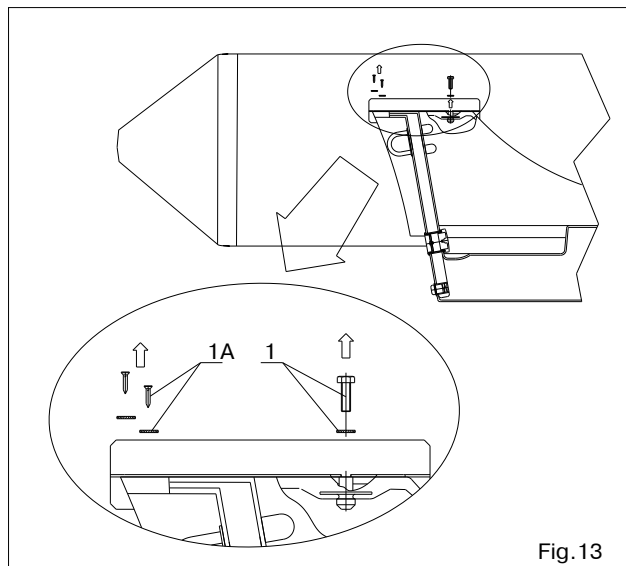

Fig.13
1. Turn off two bolts M8x25 with arrester washers (Pos.1 and 1A), (Fig. 13).